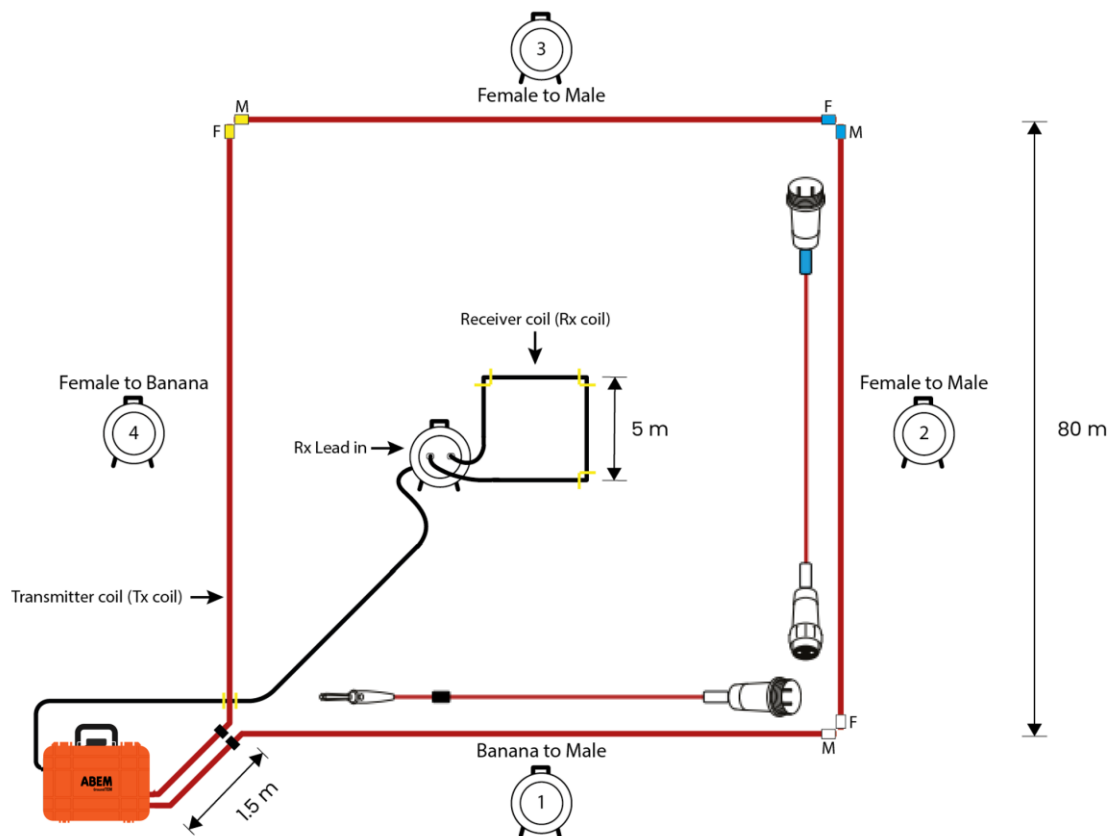

Figure 8 GroundTEM i-Series system layout with an 80 × 80 m Tx loop layout and 5 × 5 m Rx coil.
The 80 x 80 m Tx coil comes on four cable drums. Make sure to identify the two cable drums with the additional 1.5 m Tx-lead-in and use these cables for the 1st and 4th sides of the Tx coil (Figure 8). These will have “Cable 1” or “Cable 4” on the label; “Cable 2 / 3” will be on the label of the other two reels. Follow the coloured connectors at the beginning and end of each cable, for easier laying out.
- Locate the opposite diagonal Tx-corner and walk towards this while rolling out the entire Rx lead-in cable. The end point of the lead-in cable drum marks the first corner of the Rx coil (see Figure 5 and Figure 8).
- Layout the Rx coil in a square as shown in Figure 5 / Figure 8 and connect it to the Rx lead-in cable drum (see Figure 9).
- In the home corner, connect the Rx lead-in cable to the GroundTEM unit. The extra Rx lead-in cable should be placed as in Figure 5 / Figure 8, crossing perpendicular to the Tx-cable.
- Rx lead-in drum must have the connectors horizontally as shown in Figure 5 / Figure 8.